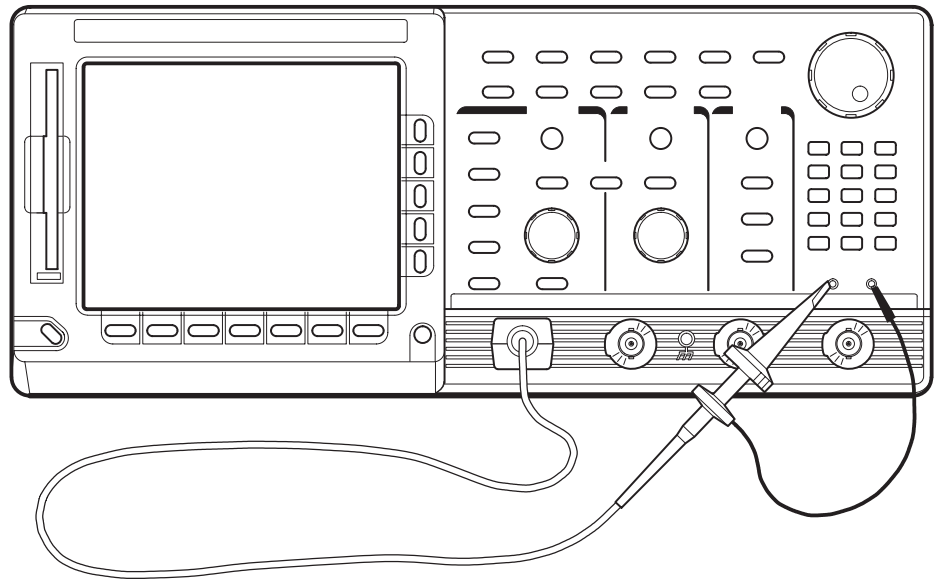

Figure 5–2: Hookup for probe compensation
- a. *Hook up test-signal source:* Install the optional-accessory probe to **CH 1**. Connect the probe tip to **PROBE COMPENSATION SIGNAL** on the front panel; connect the probe ground to **PROBE COMPENSATION GND** (See Figure 5–2).